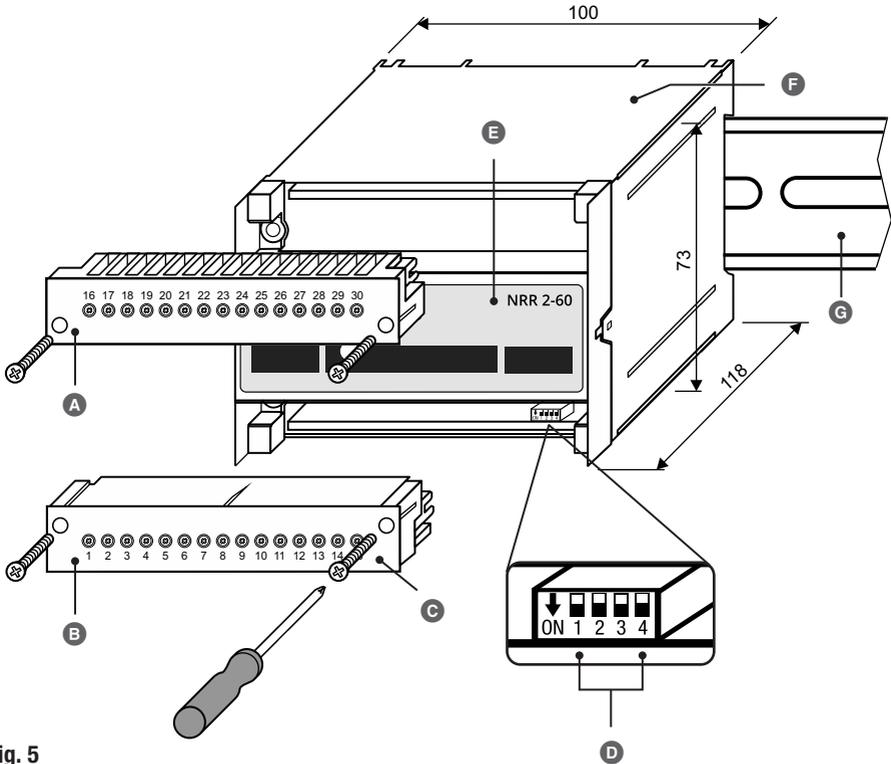

Fig. 5
You can change the baud rate and controller group of the NRR 2-60 level controller at any time using code switch **Ⓧ** (see **Fig. 5**).
2. Unscrew and pull off the lower terminal strip, see **Fig. 5**.
3. Set code switch **Ⓧ** (see **Fig. 5**) as desired, see page 23, **Fig. 9**.
For operation, you must define the controller group and baud rate for the level controller on code switch  **Fig. 5**. The desired controller functions are achieved by connecting the different level electrodes and configuring the URB 60 visual display and operating unit as appropriate.